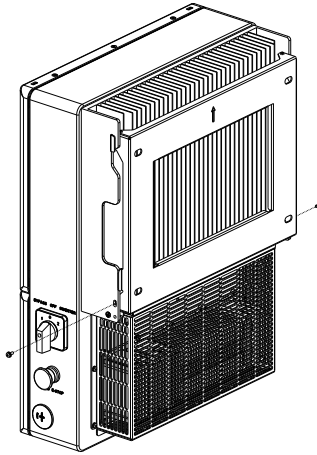

Figure 4.8 Inverter hanging on the mounting bracket
2. Lift up the inverter and align the back two hooks on the heat sync with the two tabs on the inverter mounting bracket. Lower the inverter hooks down onto the mounting bracket tabs and ensure the hooks have a solid bite before releasing the inverter. Then install the two stabilizing bolts that are included with the inverter. (see Figure 4.8)